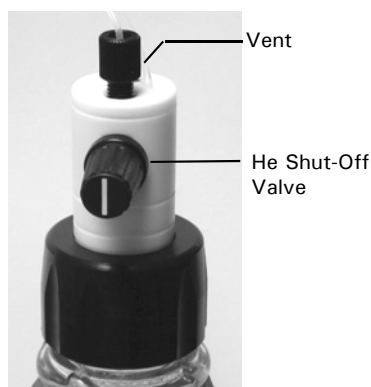

FIGURE 2-9 He Shut-Off Valve
- e) Open the He Shut-off valves by rotating the knob so that the line on the valve is vertical (FIGURE 2-9) and open the He Regulating Valve for maximum sparging (FIGURE 2-10A). Allow sparging to continue for approximately 10 minutes at a rapid rate, then lower the He flow rate to maintenance mode (FIGURE 2-10B).